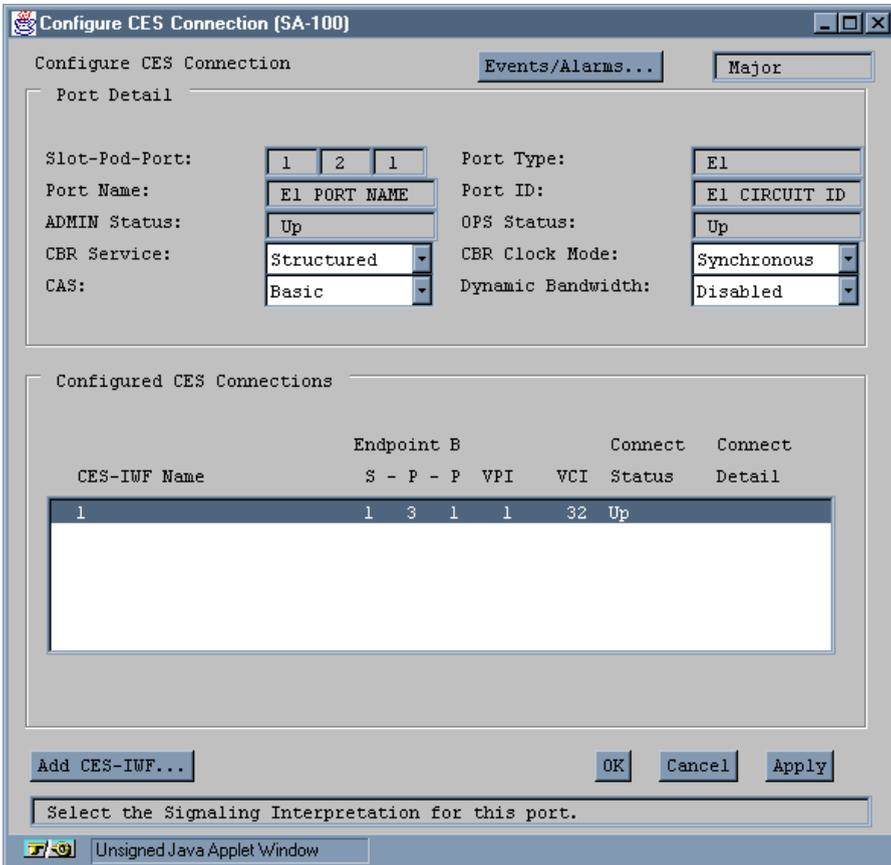

Figure 5-19. Configure CES Connection Window
3. Select the port you want to configure and the Configure CES Connections window appears (see Figure 5-19).
4. After you configure the ports of a DS1/E1 Circuit POD, as described in “Configuring a DS1/E1 Port” on page 4-8, choose the Next Logical Layer button in the Configure DS1/E1 Port window and the Configure CES Connections window appears (see Figure 5-19).